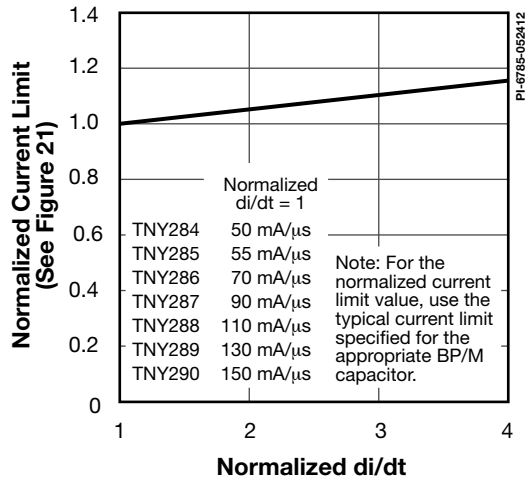

Figure 25. Standard Current Limit vs. di/dt.
- E. For current limit at other di/dt values, refer to Figure 25.